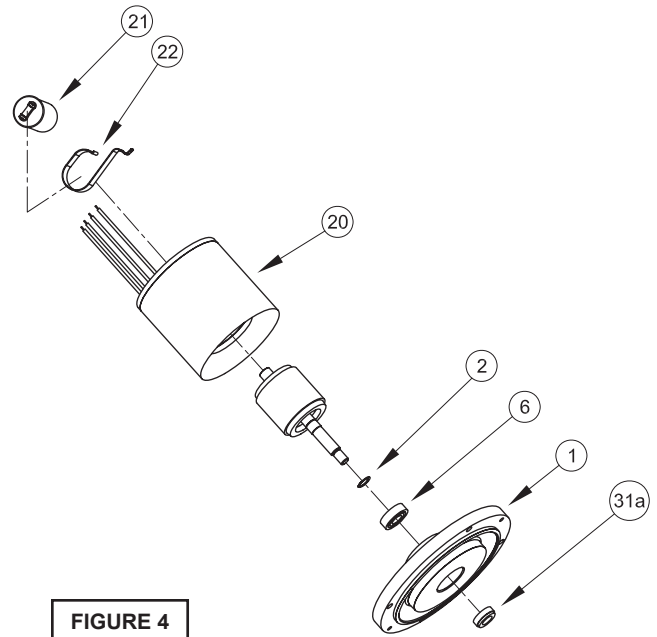

FIGURE 4
and lift motor stator from seal plate (1). Disconnect capacitor leads from capacitor (21, single phase units). Examine bearing (6) and replace if required. If replacement is required, remove bearing (6) from motor shaft using a wheel puller or arbor press, see Figure 4.